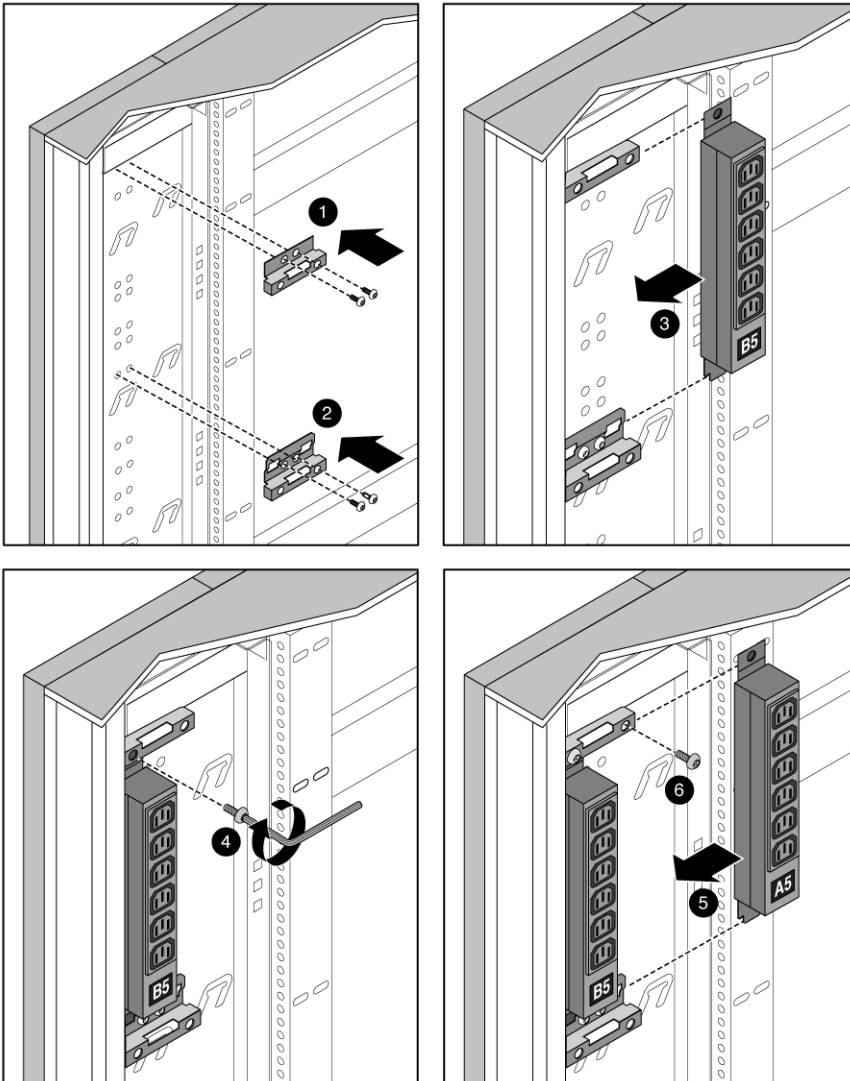

FIGURE 2-2 Installing the Power Strips, Brackets, Cables, and Covers
1. Using a 5 mm hex wrench, install the top power strip bracket at the top of the rack (FIGURE 2-2).
3. Slide power strip B5 into the top bracket (FIGURE 2-2).